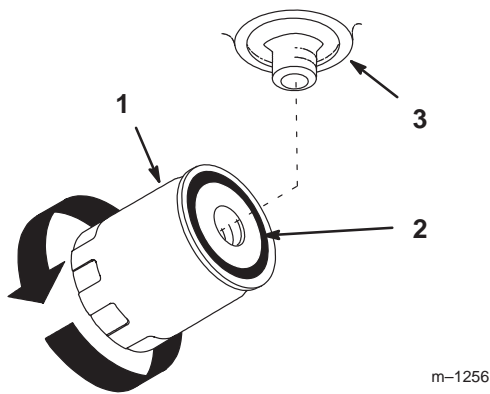

Figure 46
4. Apply a thin coat of hydro fluid to the rubber gasket on the replacement filter (Fig. 46).
7. When fluid overflows the filter, turn the oil filter clockwise until the rubber gasket contacts the filter adapter; then tighten the filter an additional 1/2 turn (Fig. 46).